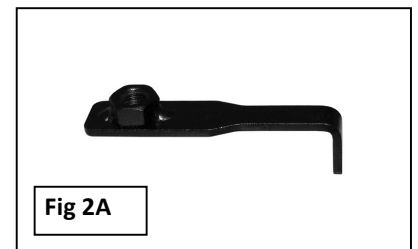

Fig 2A
3. Locate the two factory holes in the bottom of the frame towards the front of the vehicle. Insert (1) 10mm Nut Plate, **(Figure 2A)**, into the oval hole and line up the threaded nut with the forward round hole, **(Figure 2B)**.